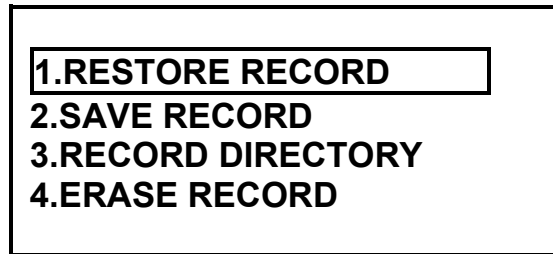

Figure 39.0 Save/Restore Record Menu
- b. **Origin:** From the “Save/Restore Record Menu” (Figure 39.0) select menu option 1.